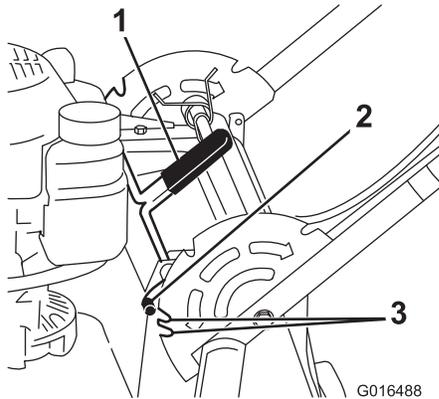

Figure 18
1. Lift the handle slightly and pull the handle-lock lever rearward to disengage the handle-lock pins (Figure 18).
2. Rotate the handle and align the desired notch in the handle bracket to the handle-lock pins; refer to Figure 18.